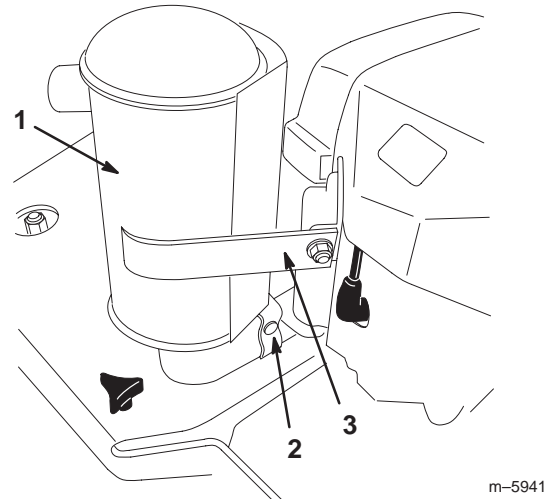

Figure 15
1. Loosen the clamp (Fig. 15).
2. Rotate the muffler forward into the position shown in Figure 15.
3. Secure the muffler bracket (Fig. 15) to the engine bracket with the hardware provided.